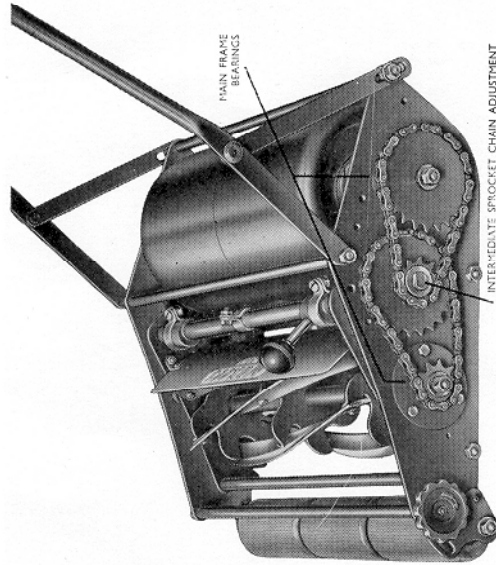

FIG. 2
- (e) Oil the main frame cutter and rear axle bearings seen at the back of the large and small chain sprockets. (First remove transmission cover.) See Fig. 2.
Any necessary adjustment required by the driving chains can be effected by highering and lowering the combined intermediate large and small centre sprocket (see Fig. 2) and the following procedure should be carried out:—